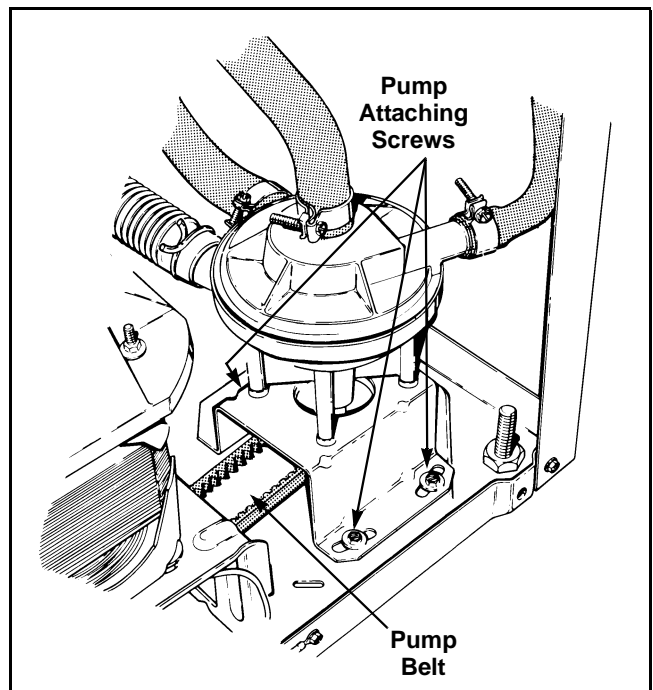

Figure 57
- b. Loosen the two front mounting screws, then loosen the rear screw. Refer to *Figure 57*.